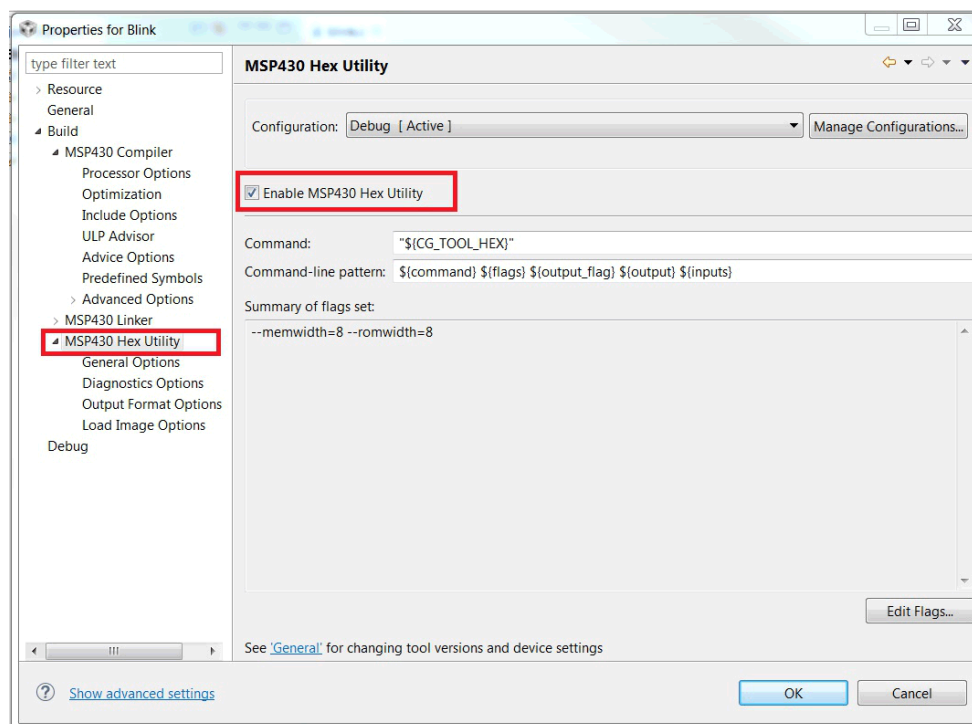

Figure 4. CCS – Enable MSP430 Hex Utility
2. Click **Build** → **MSP430 Hex Utility**, and then select **Enable MSP430 Hex Utility** (see Figure 4).